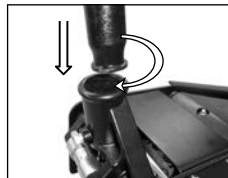

fig 3.
3. Slide the handle assembly into the handle base (4). The handle assembly will be required to be slowly twisted for the hex shaped drive of the release valve to engaged into the handle assembly slot (fig.3).